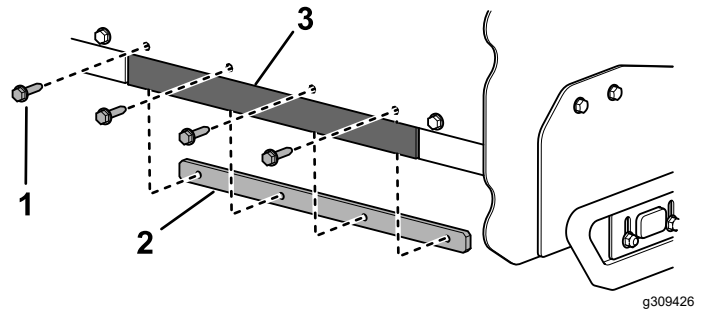

Figure 30
2. Nut (2)
5. Ensure that the trip edges are 3 mm (1/8 inch) above and parallel to a level surface (Figure 30).